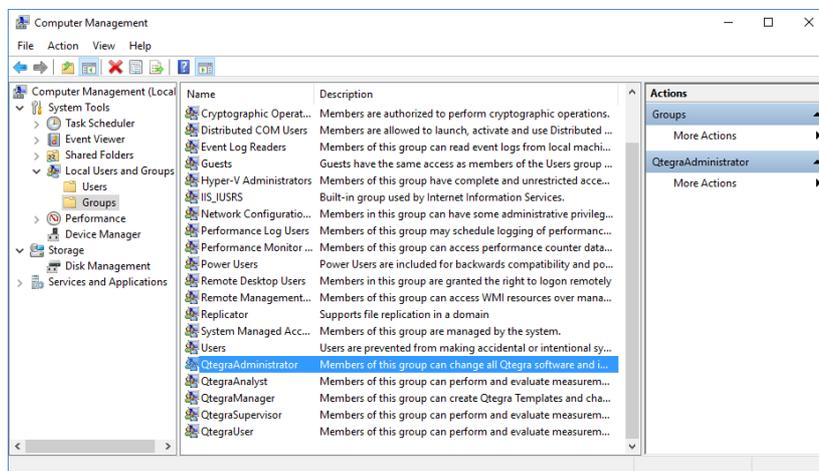

Figure 2-2. Computer Management window
2. In the Computer Management window, expand **System Tools** and **Local Users and Groups**. The **Users** and **Groups** folders are shown. See Figure 2-2.